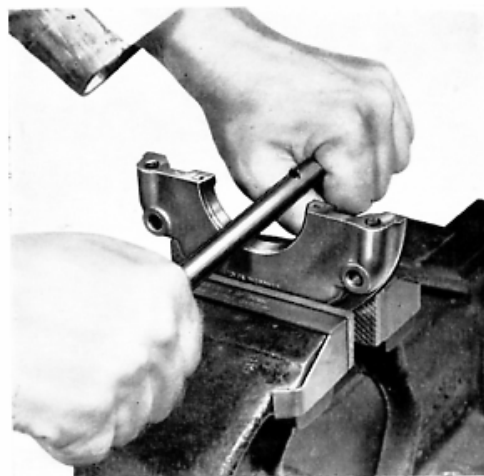

Fig. K.8.
3. With thumb or finger press remainder of strip into groove, working from the centre, then use any convenient round bar to further bed in the strip by rolling and pressing its inner diameter as shown in Fig. K.8. This procedure takes advantage of the friction between the strip and the groove at the ends to compact the rope, whilst ensuring that the projections of the end faces of the rope remain as set.